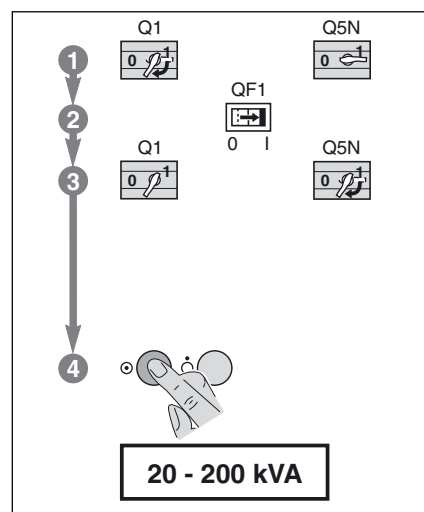

Fig. 21
See figure 21.
In addition to keypad operations, the graphical display brings up a window giving the overall device status. The message displayed is then said to be primary (see list in the paragraph below). A primary message can be used to access the measuring tables using keys (14), (15), (16) and (19) on the keypad (see figure 21 in the general appendix). The configuration screens can be accessed by pressing key (13). A flashing arrow appears at the end of a primary message if there is a problem or an alarm; secondary messages can be accessed by pressing key (10) on the keypad (see the list of secondary messages). The presence of another message is indicated by the arrows ↓ and ↑ at the end of the secondary message. They can be accessed by pressing keys (10) and (11) on the keypad.